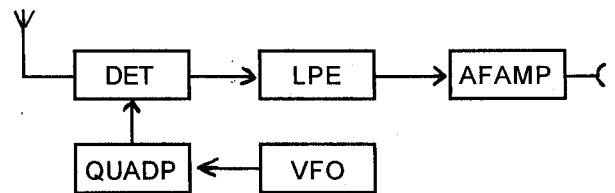

Fig. 1 The Block diagram
**THE CIRCUIT :** The block diagram & the receiver are shown in the Figs 1 & 2 respectively. At the heart of the Rx there is a CA 3028A product detector. A coil-capacitor combination forms the front end & the idea of adding a RF amplifier is rejected for fear of non-linearity & cross-modulation. The VFO is a FET oscillator followed by two buffer stages, the construction of which has been described in an earlier article in the IRA. The 3.5 MHz signal from the VFO is quadrupled in a 2N706 quadrupler stage & the same along with the incoming 20M signals are applied simultaneously to the detector. The output is a beat note for CW & speech or audio for SSB which is passed through a low pass filter for selectivity & then highly amplified to loudspeaker level. A four-transistor conventional transformer- coupled audio amplifier has been chosen for the job. Since I have only a 3 ohms speaker in the shack & this time I avoided experimenting with transformerless audio amp which usually requires speakers with higher impedances, this circuit has been the final choice. All fine tuning is done simply by controlling the VFO & there is no